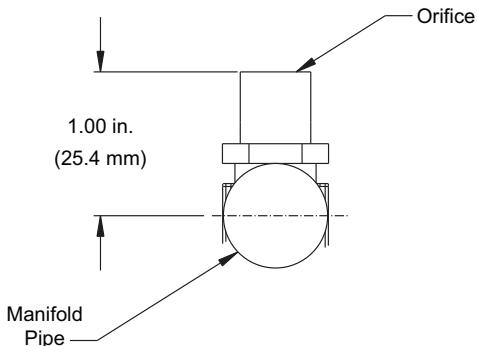

Fig. 51 — Orifice Projection
See Fig. 51 for maximum projection dimension for orifice face to manifold tube.
5. If factory orifice has been removed, check that each orifice is tight at its threads into the manifold pipe and that orifice projection does not exceed maximum value. See Fig. 51.
Ensure each replacement orifice is tight as its threads into the manifold pipe and the orifice projection does not exceed maximum value. See Fig. 51.